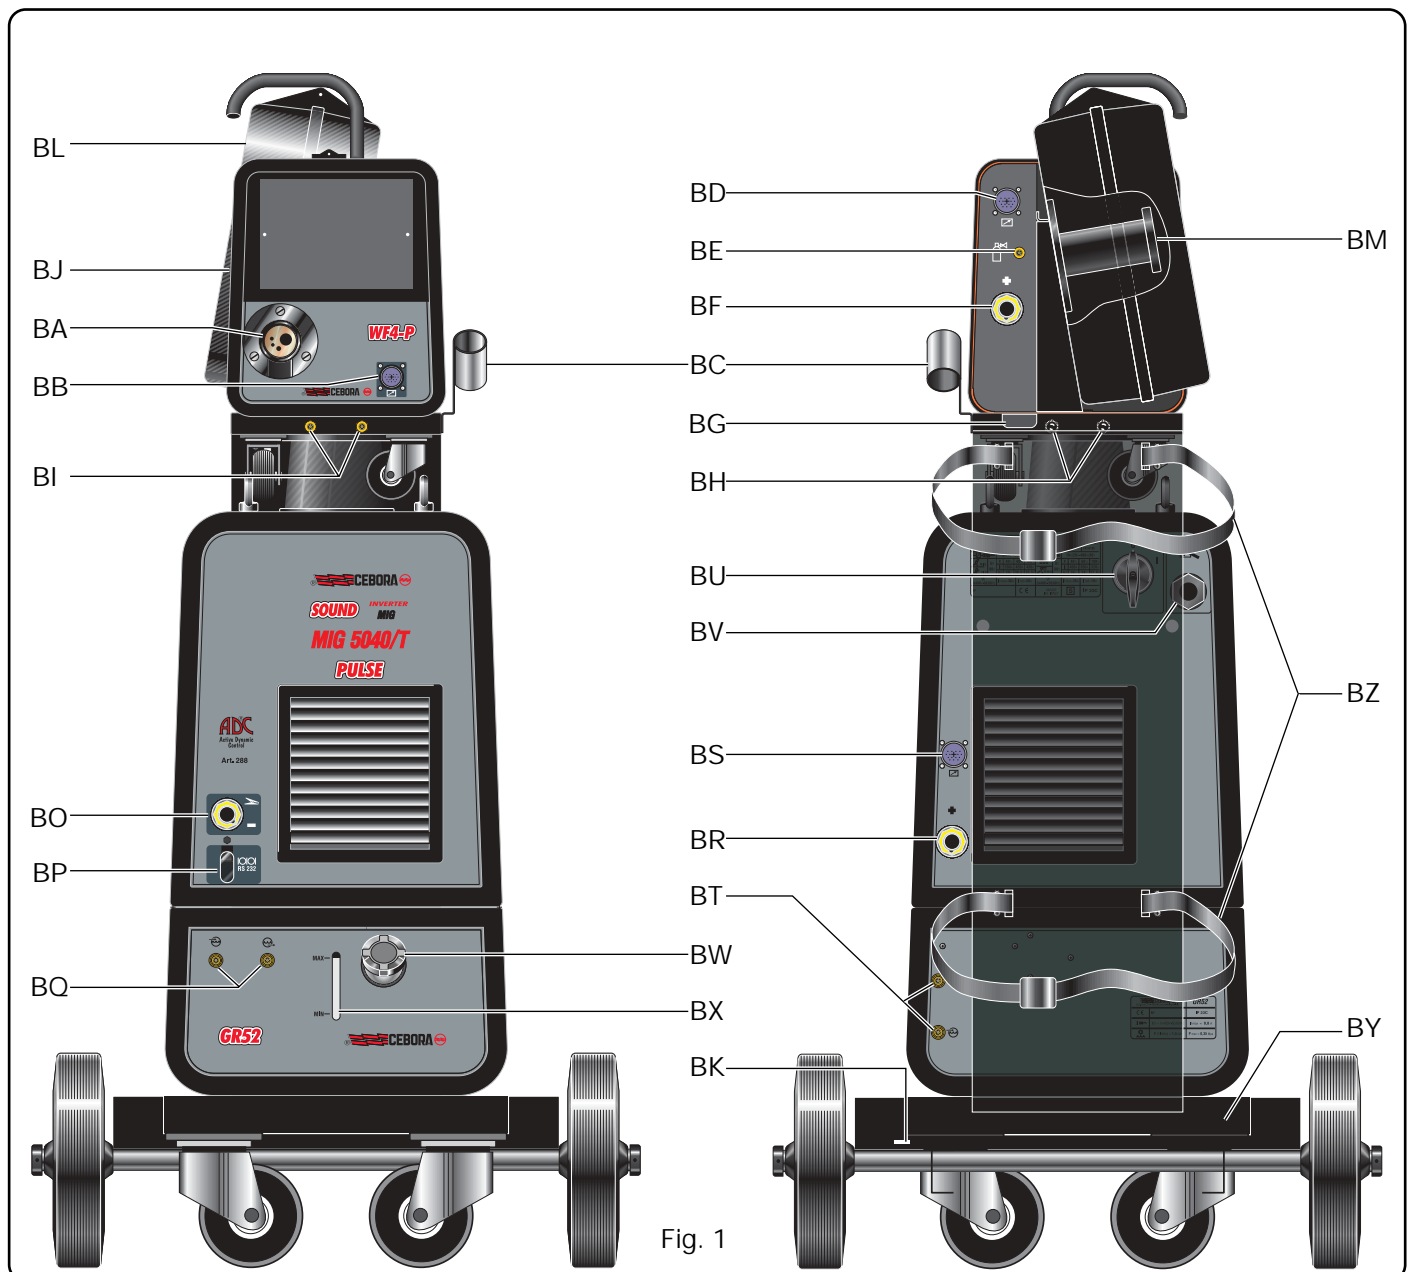

Fig. 1
2.1.2 Description of the power source (Fig. 1)
2.2.1 Description of the wire feeder (Fig. 1)
2.3.3 DESCRIPTION OF THE COOLING UNIT (Fig. 1)
2.4 TROLLEY (Fig. 1)